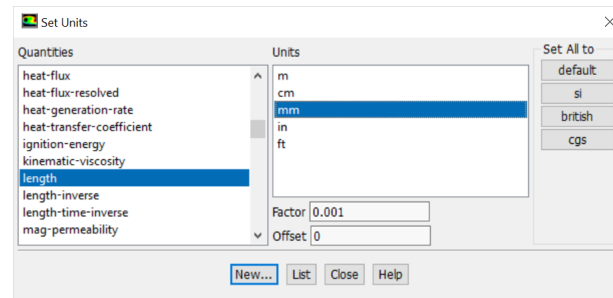

Figure 34: Fluent *Set Units* dialog box.
2. The *Set Units* dialog box will be displayed, as in figure 34.